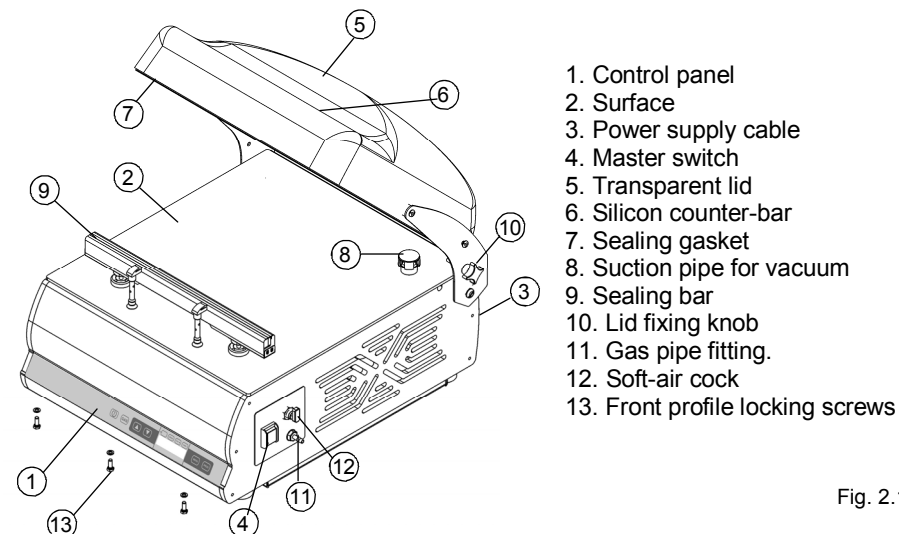

Fig. 2.1.1
- Position the master switch (ref. 4 fig. 2.1.1) at ON.
- Close the suction pipe for vacuum (ref. 8 fig 2.1.1)
To facilitate comprehension of the manual, the main machine components are listed below and represented in fig. 2.1.1.